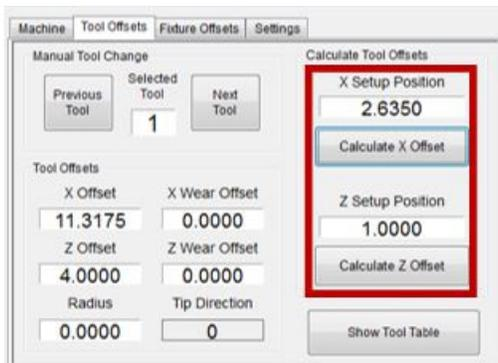

Figure 11 - Tool Window
9. Go to the **Tool Offset** tab (Figure 11)